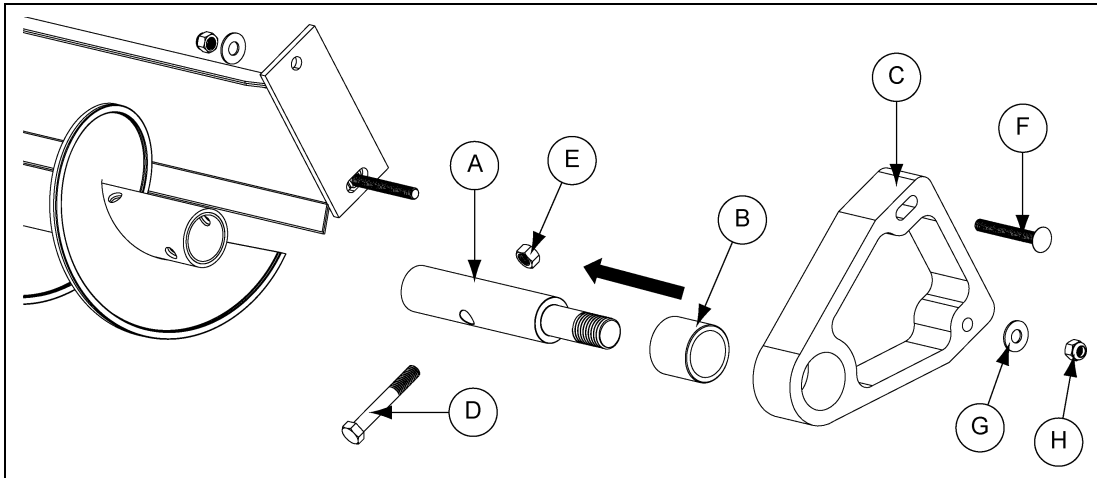

Figure 4AK
Step 13: Fit wheel shaft. (See Figure 4AK.)